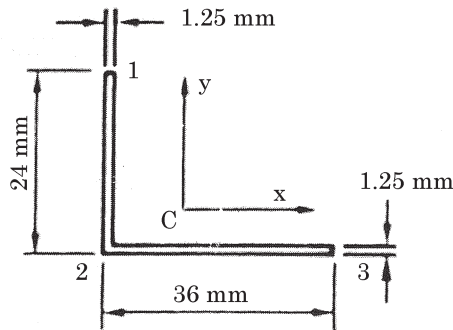

Figure 7
- b) i) Determine the section properties of the angle section given in Figure 7. What are principal axes of inertia and how are they determined? (7)